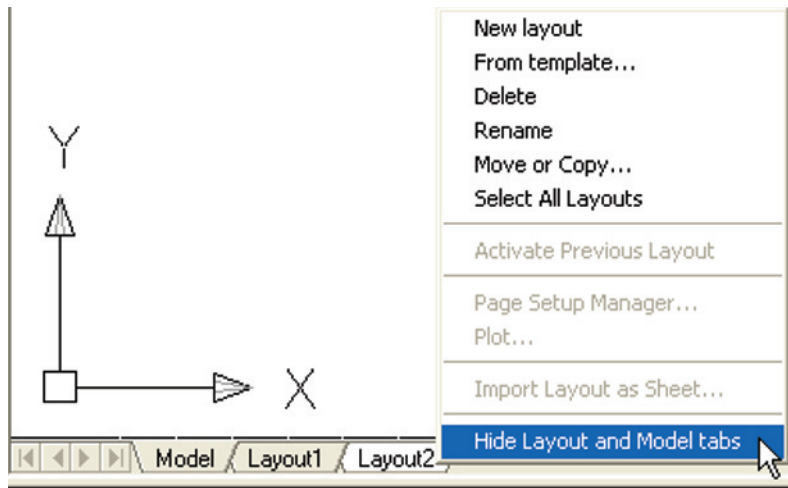
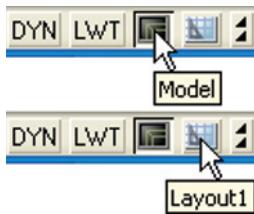

Fig. 1.32 The right-click menu from a tab
Fig. 1.33 The **Model** and **Layout** buttons in the status bar
1. **Right-click** on either the **Model** or a **Layout** tab and, in the menu which appears, select **Hide Model and Layout** tabs (Fig. 1.32). The tabs disappear from the screen. However **Model** and **Paper** can then be selected from the buttons in the status bar (Fig. 1.33) which appears when the tabs are hidden.